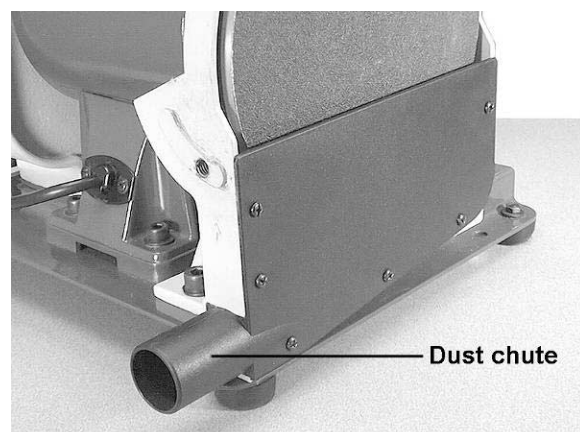

Figure 2
The sander has two 1-1/2" diameter dust chutes. The dust chute for the belt is located on the belt cover. The dust chute for the disc should be installed as shown in Figure 2, using the six (6) pan head machine screws that are provided.